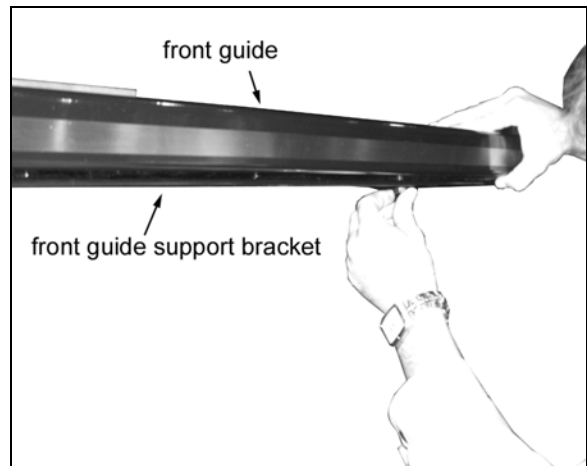

Figure 5
2. Set the front guide on the support bracket as shown in Figure 5 and secure into place with the short bolts provided in hardware packet 7.